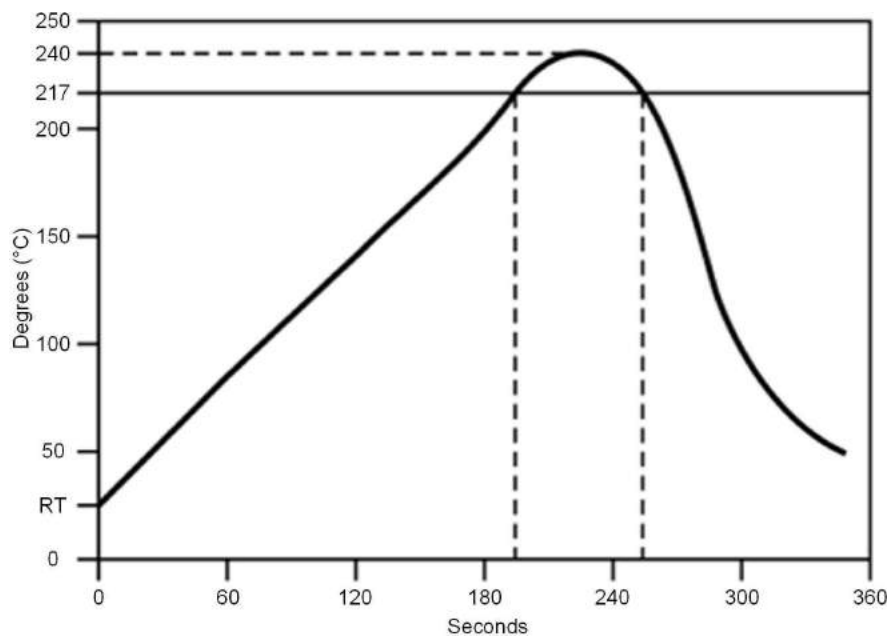

Figure 11. Temperature Profile for Evaluation of Solder Heat Resistance of a Component (at Solder Joint)
- Temperature measurement: Thermocouple $\phi = 0.1$ mm to 0.2 mm CA (K) or CC (T) at soldering portion or equivalent method
- Allowable reflow soldering times: 2 times based on the reflow soldering profile (see Figure 11)
- Temperature profile: Reflow soldering will be done according to the temperature profile (see Figure 11)